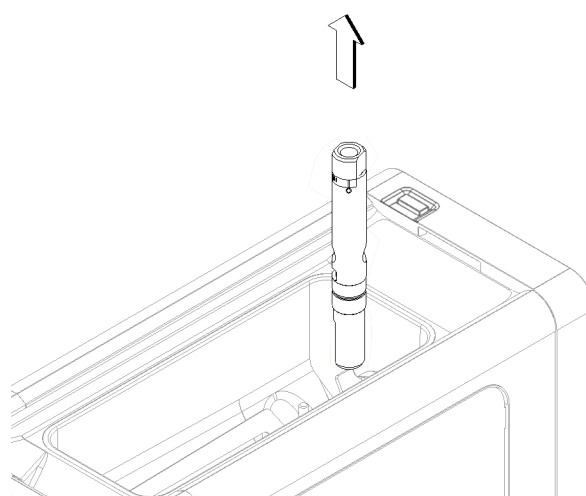
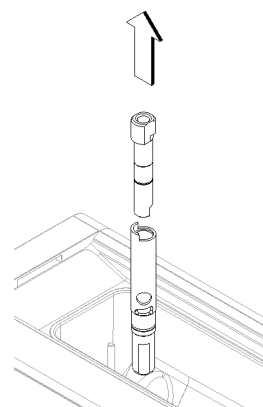

figure 19
figure 20
- 5 Remove the mixing tube and dismantle it (see figure 19) and (see figure 20).
3 Reassemble the tap assembly in the reverse order to that illustrated in Figure 20 and reposition it in its seat.